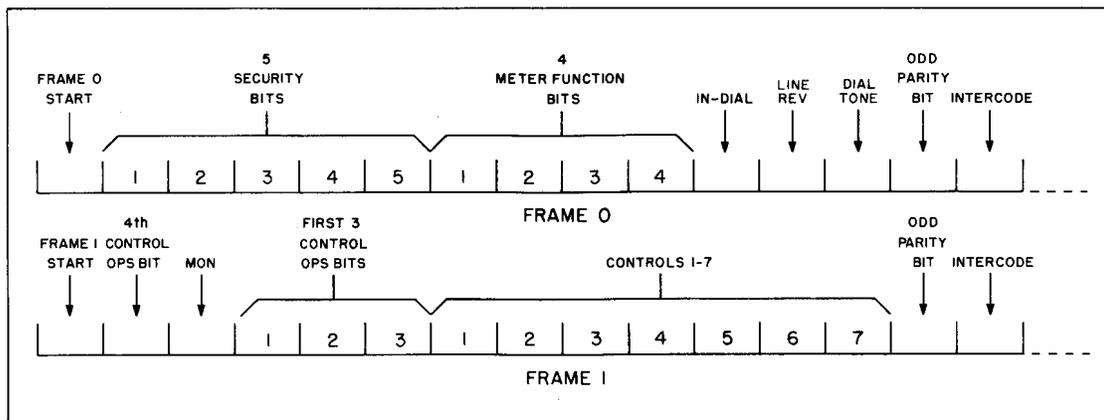
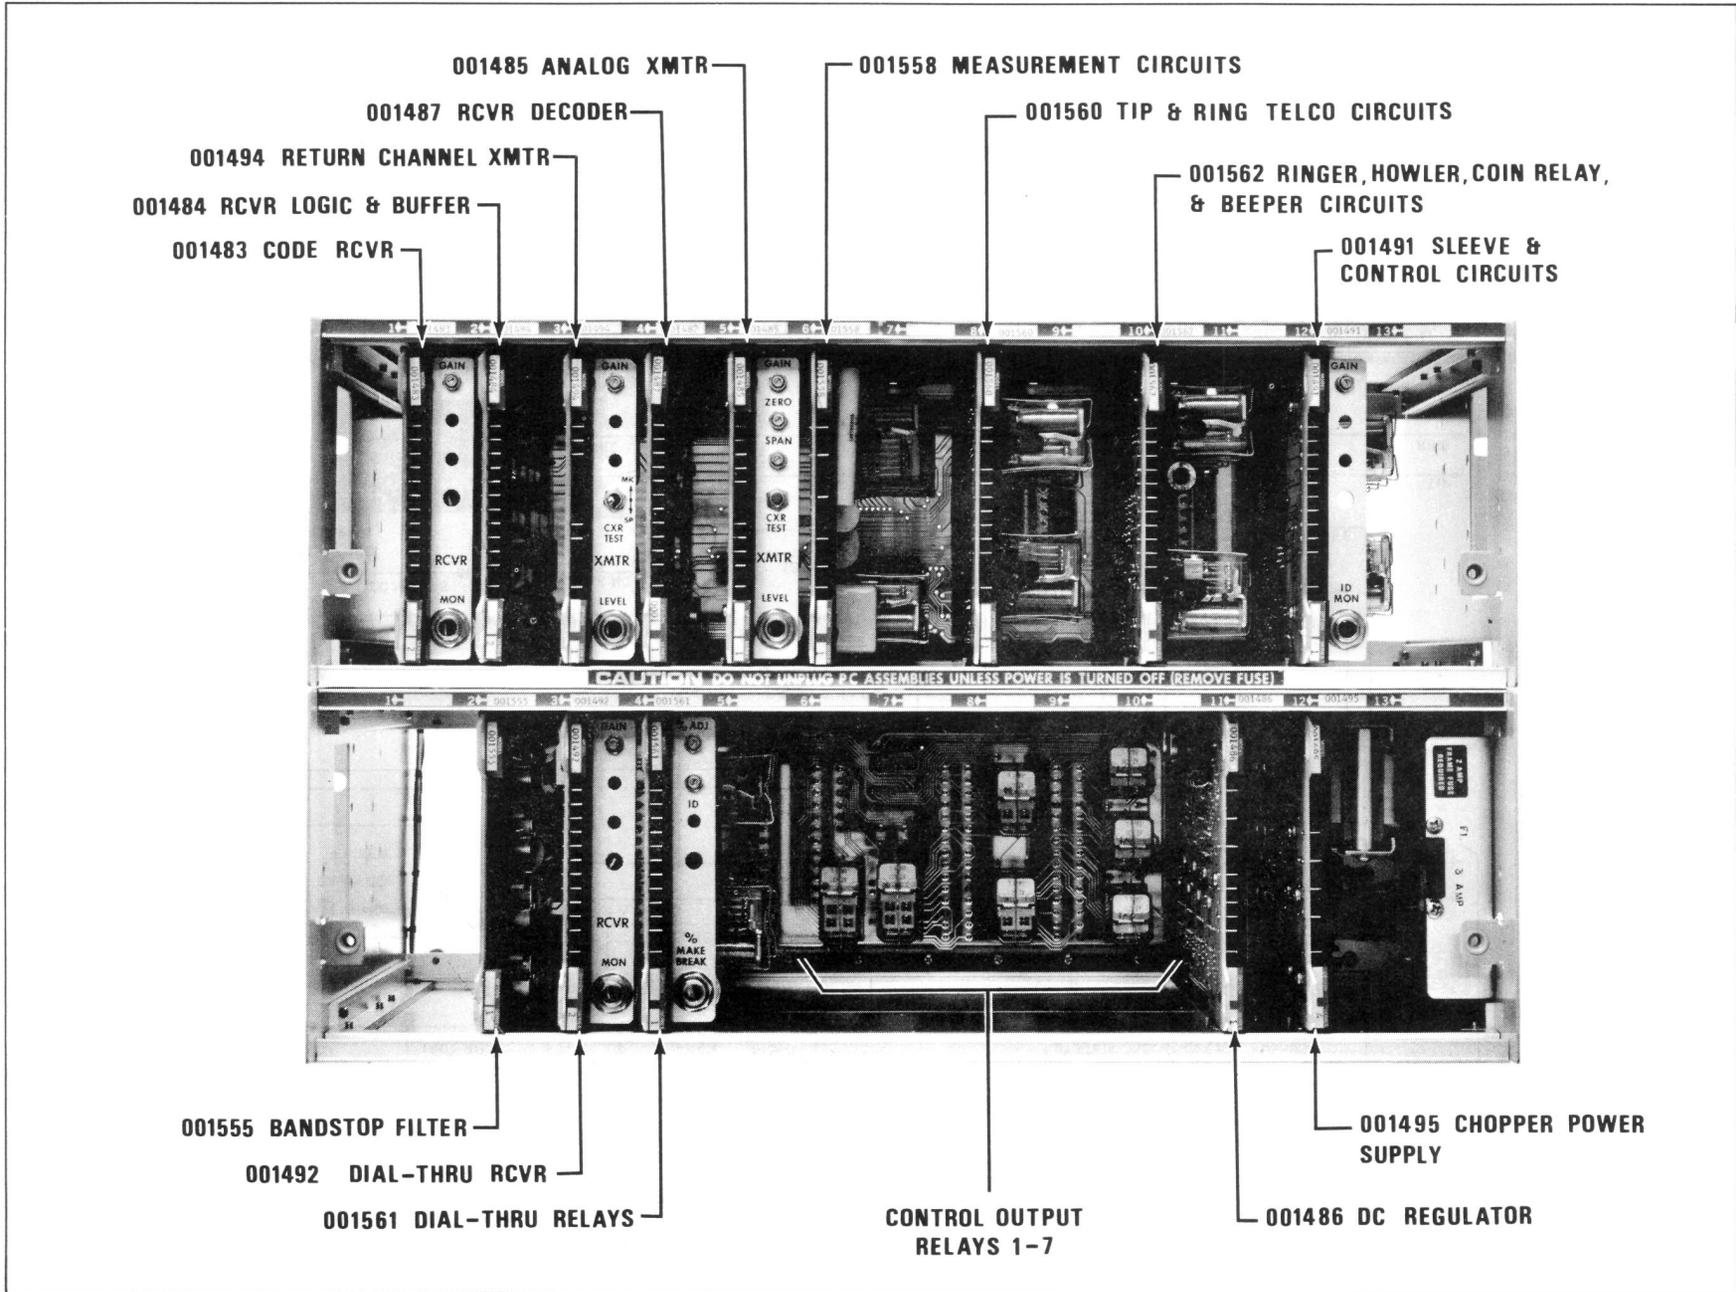
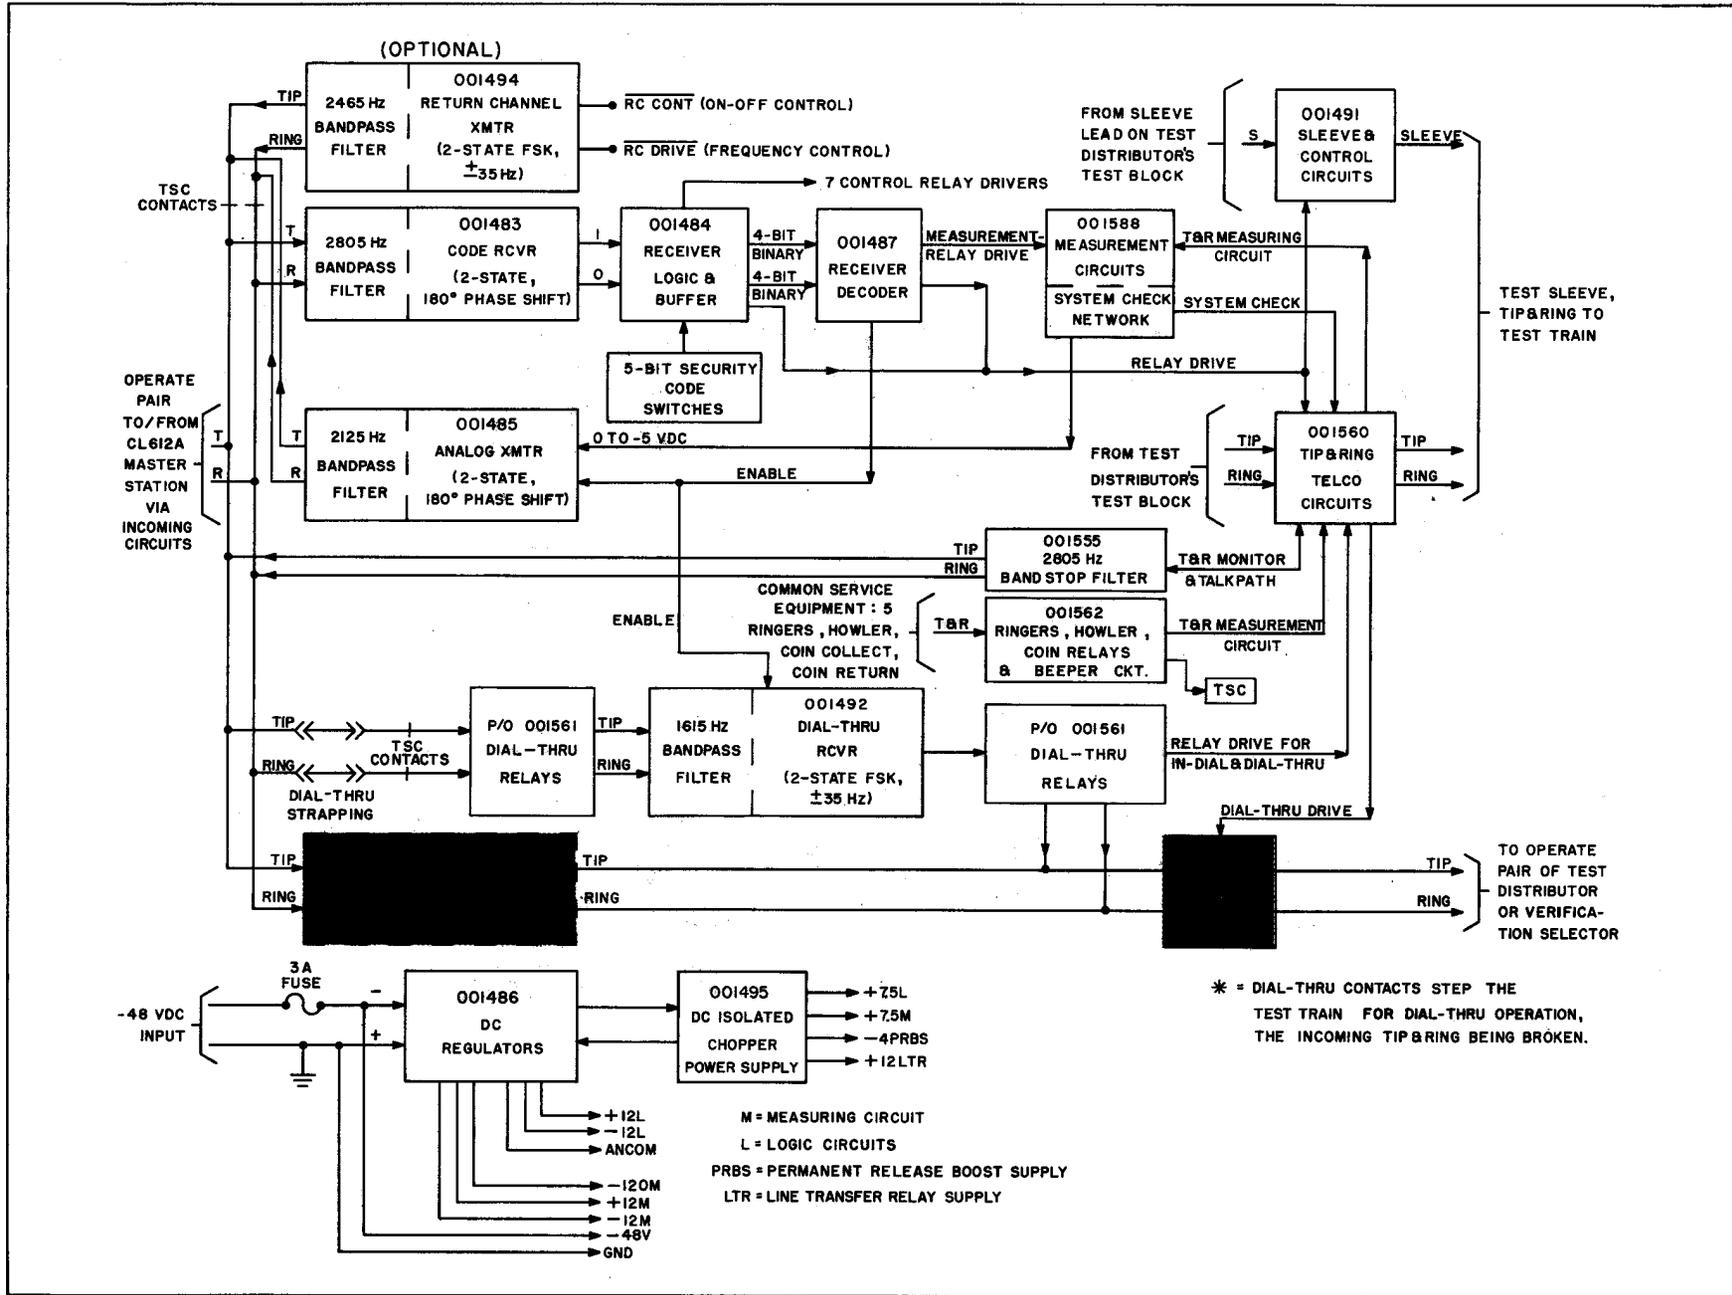

Figure 3 - Diagram of Communications Code Structure
Figure 4 - Front View of 001481 Remote Station Showing Card Arrangement
Figure 5 - Block Diagram of 001481 Remote Station
Figure 3 illustrates the structure of the communications code. It is comprised of two frames of information. The first frame is called "frame 0," the second "frame 1". Following the start pulse (0 or 1) of each frame are 12 information bits, a parity bit and an intercode. Counting the two intercodes, there is a total of 30 bits, and since the scanner operates at 30 pulses per second, it generates a complete code in one second.
2.15 REMOTE STATION - Figure 4 is a front view of the remote station without its upper and lower covers. Every card comprising the station is identified. Figure 5, a corresponding block diagram of the station, is the basis of the following description. (Para. 2.16 - 2.28)
2.17 RECEIVER LOGIC AND BUFFER - Upon receiving the 1 and 0 pulses, the receiver logic and buffer stores and checks them, one frame at a time. (Remember that the pulses form two intercode-separated frames - see Fig. 3.) The logic circuits check each frame for too many or too few pulses, besides checking the start and parity pulses for integrity. Having been checked in this manner, the first frame is stored while the second is shifted in and similarly checked for overflow or underflow and odd parity. Only if the code checks are successful and if the settings of the remote station's security switches match exactly those of the master station will the two frames be presented as a parallel output. Part of the output consists of two four-bit binary codes defining the meter- or control function selected at the master station, and is applied to the receiver decoder. Other segments of the output are independent bits that drive the seven control output relays (Fig. 4) and other relays in the tip and ring telco circuits.